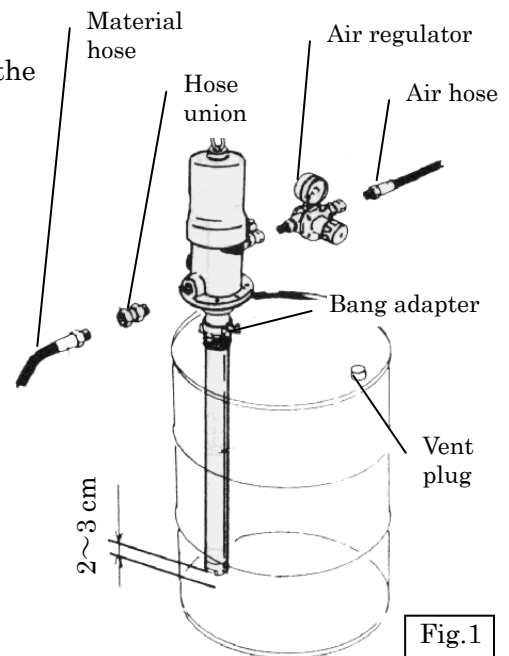

Fig.1
- 2) Insert the pump in the bang adapter. When the lower end (foot valve) of the pump touches the bottom of the drum can, lift the pump 2 or 3 cm to make a clearance between the foot valve of the pump and the bottom of the drum can, and fix the pump by tightening the thumb screw of the bang adapter. (Fig.1)